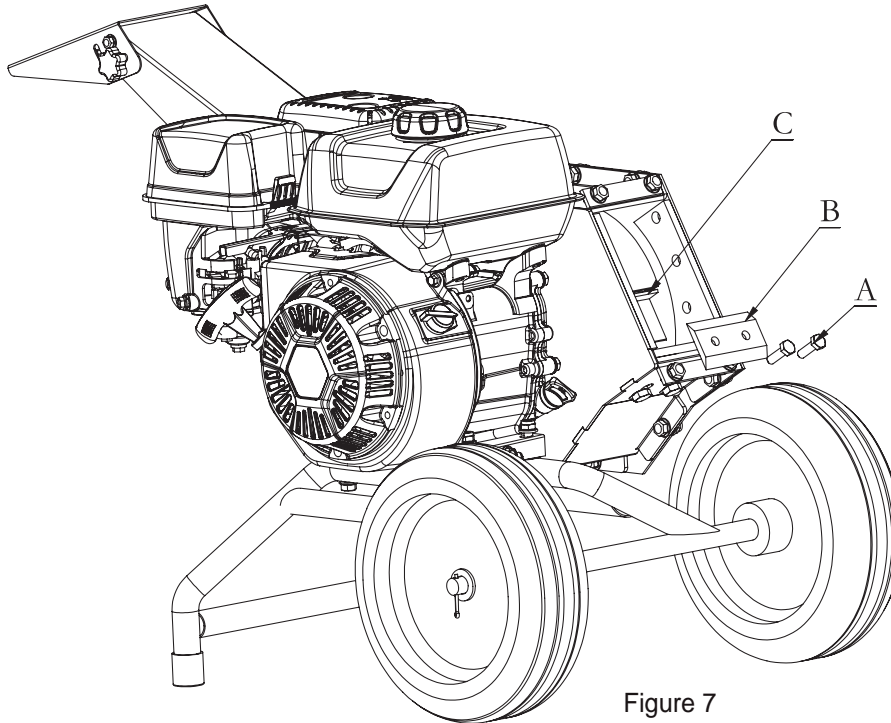

Figure 7
2. Fixed the cutting disk (C), loosen M8*25 bolt (A), and replace the knife (B). (See Figure 7)